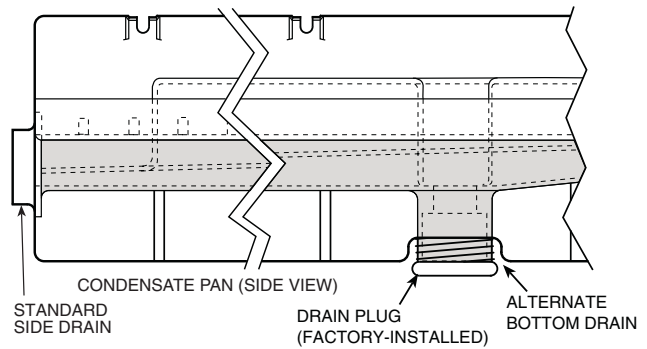

Fig. 21 — Condensate Drain Pan (Side View)
Step 11 — Install External Condensate Trap and Line — The unit has one $\frac{3}{4}$ -in. condensate drain connection on the end of the condensate pan and an alternate connection on the bottom. See Fig. 21. Unit airflow configuration does not determine which drain connection to use. Either drain connection can be used with vertical or horizontal applications.